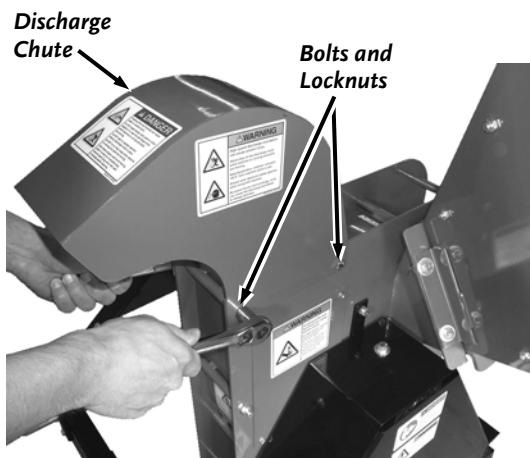

Figure 10
1. Position the Discharge Chute as shown and secure with two 5/16-18 x 5-1/4" Bolts and Nylon Locknuts (**Figure 10**).